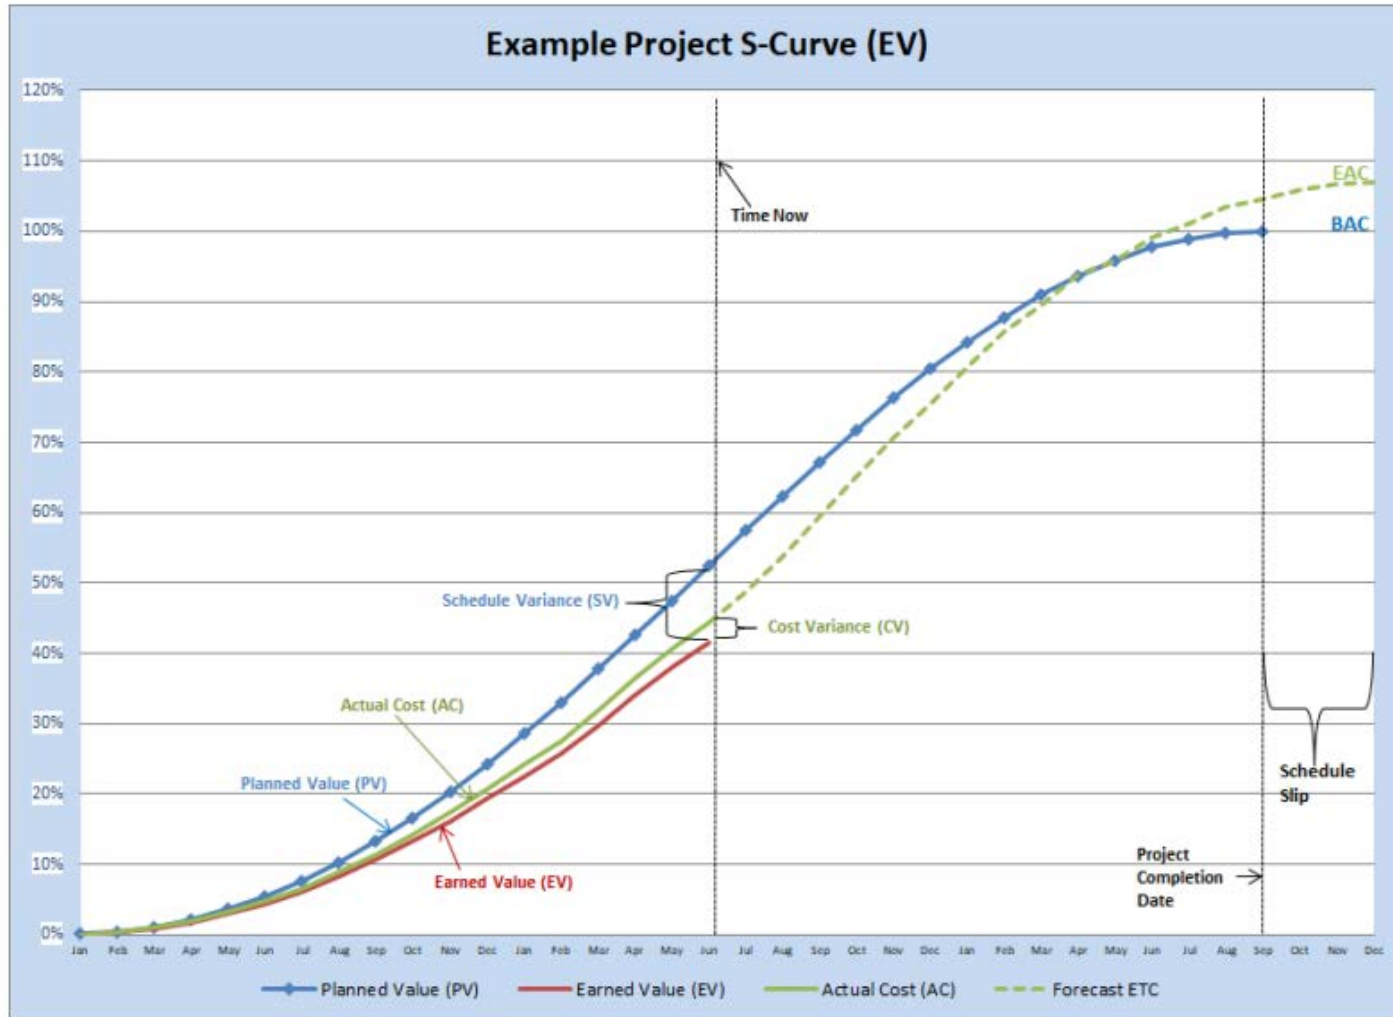

Figure 8 – Earned Value S-Curve Basic Analysis
- ❑ The terms shown in **Figures 8 and 9** are defined in Recommended Practice 10S-90, Cost Engineering Terminology.